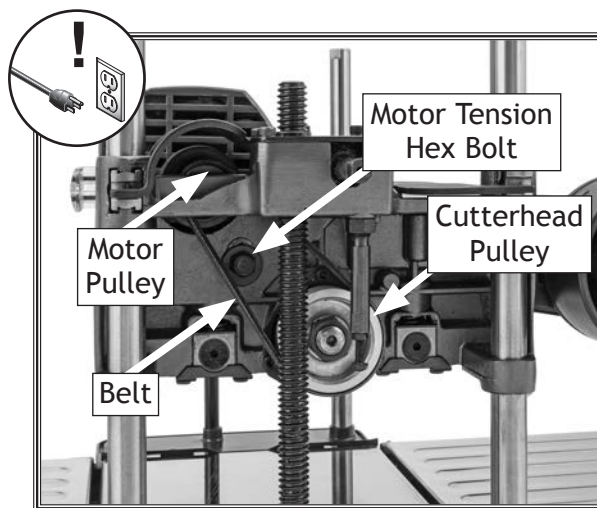

Figure 28. Drive belt and pulleys.
4. Remove top cover and righthand side panel to expose drive belt and pulleys (see **Figure 28**).
5. Loosen motor tension hex bolt (see **Figure 28**) to reduce belt tension, and roll old belt off pulleys.